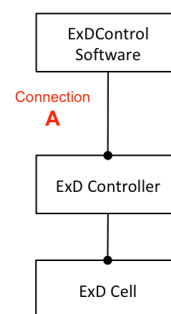

Figure 11. ExDControl software to ExD Controller/instrument network diagrams.
- If in standalone mode (Figure 11), then the ExDControl software window will display “Connected to Controller.”
- If in instrument-aware mode (Figure 11), then the ExDControl software window will display readouts of the instrument state.